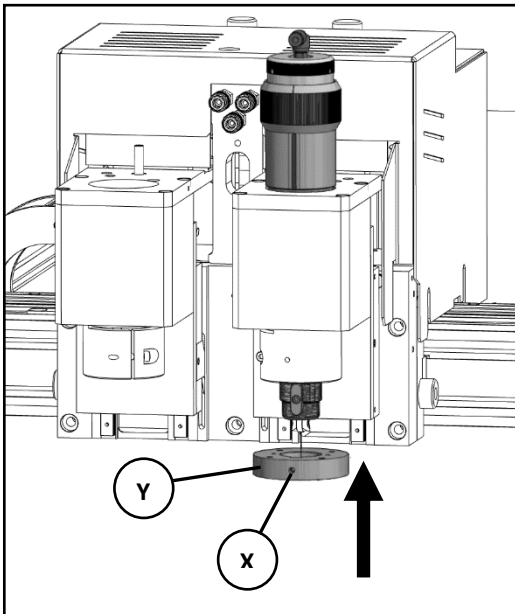

Figure 7-35
To mount any head (W) on the VersaTool, plug it on the magnets flange and when it adheres to the flange, tighten the screw (Z) (Figure 7-35).
- Loosen the screw (Z) (Figure 7-35).
- Hold the release tool/fork (1) by its handle and insert it into the slots located in the top part of the head. Holding the tool with one hand and the release fork tool with the other, insert the fork teeth into the head slots (2) and give it a slight knock to release the head.
- This operation will detach the interchangeable head from the magnets flange, and the head will remain attached to the magnet of the fork (3)